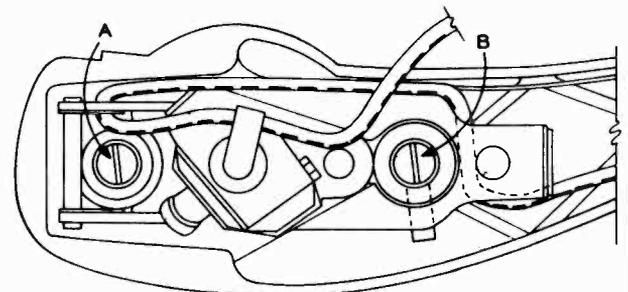

Fig. 10
CAUTION: Closely observe the original placement of the pickup cord and replace it in the same position. (See Fig. 10). Do not push hard on the needle end of the cartridge. Bending the mounting bracket will cause improper tracking
1. Remove mounting screws from mounting studs A and B, Fig. 10.